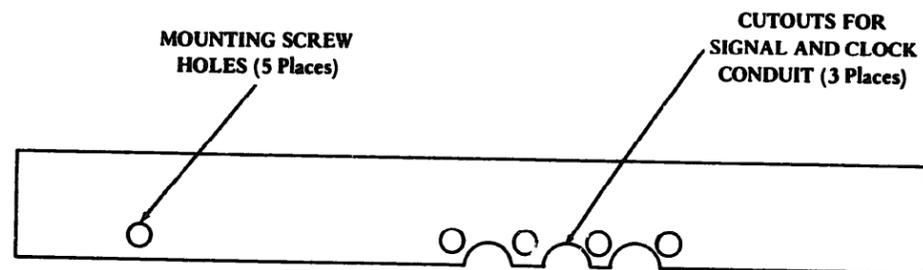

Figure 4 - Bracket Support Plate
3.06 Position TP33315 conduit plate on underside of cable opening in the lower rear section of the cabinet. Place flanged side of plate on top of front flange of cable opening, raise rear end of conduit plate to bottom side of cable opening. Place TP33316 bracket support on inside of cabinet above rear end of conduit plate. Secure plate and bracket together with five TP151723 screws and TP3639 lockwashers screwed into conduit plate (Figure 4).